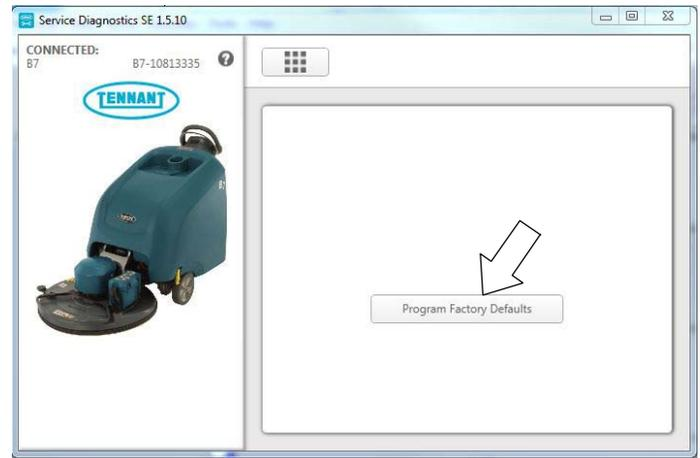

Fig. 17
- Press the “Program Factory Defaults” button to program the new drive module (Figure 17).